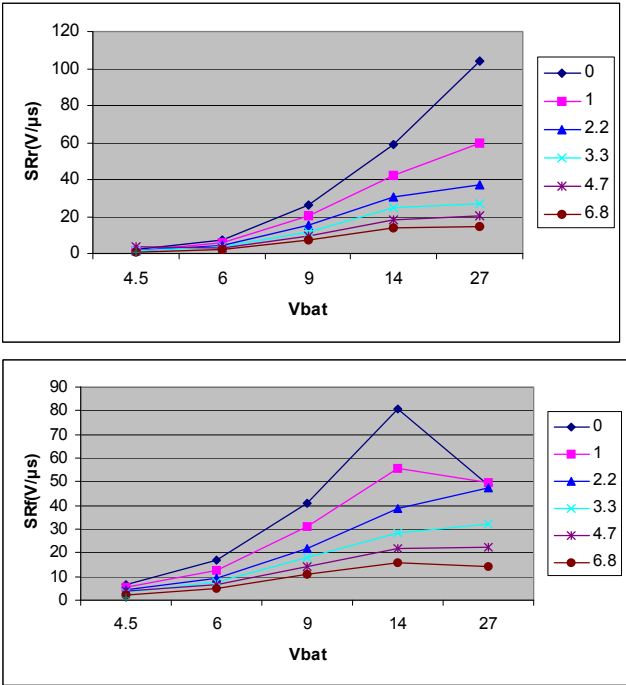
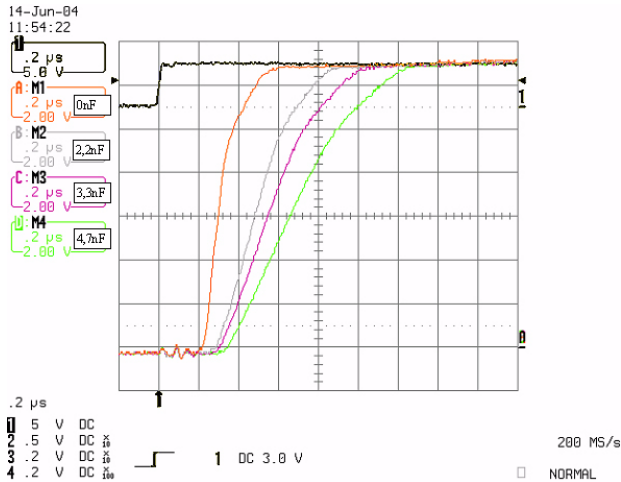

Figure 36. Positive and Negative Slew Rate vs. SR Capacitor
Figure 37. OUT switching vs. SR Capacitor
The switching time is a critical parameter. The 33981 provides adjustable slew rates through an external capacitor (SR) that slow down the rise and fall times to reduce the electromagnetic emissions. However, this adjustment will have an impact on power dissipation. Figure 36 gives the positive (SR_R) and negative (SR_F) slew rate versus different values of SR. This is illustrated in Figure 37.